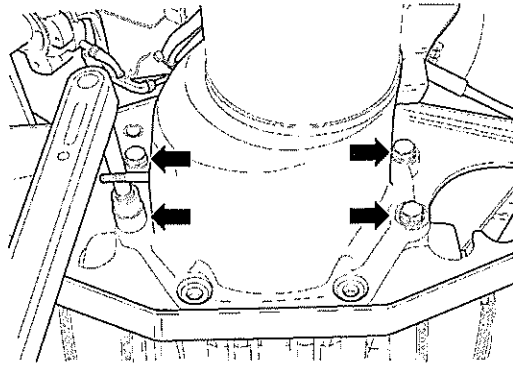

Fig 5 Front axle side fastening bolts
- 4.23 Support front axle with jack and loosen side fastening bolts (see Fig 5).